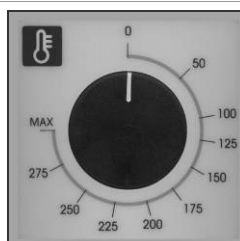

Fig. 5
**Programming cooking temperature** - Turn the knob of the adjustment thermostat (Fig. 5) in line with the temperature selected for cooking.